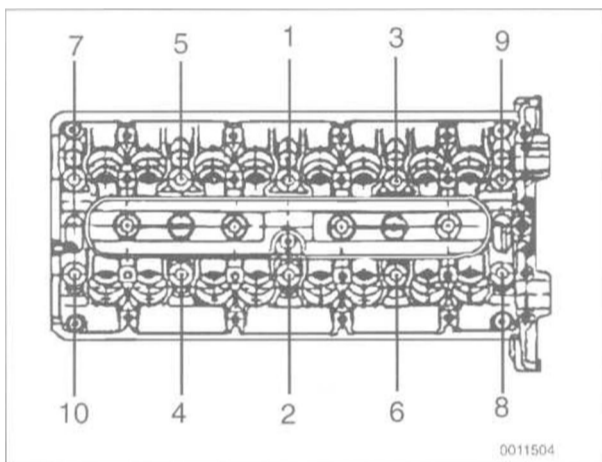

Fig. 53. Cylinder head bolt tightening sequence (M60 engine).
- Tighten cylinder head bolts in stages, alternately and diagonally in the sequence shown. See Fig. 53.